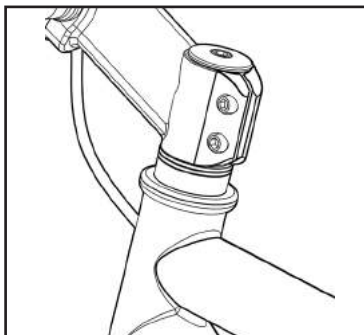

Figure 58
**⚠ WARNING:** Threadless stem systems cannot be raised or lowered without removing components and re-adjusting. They should not be adjusted or loosened by anyone other than an experienced bicycle shop mechanic (see Figure 58).